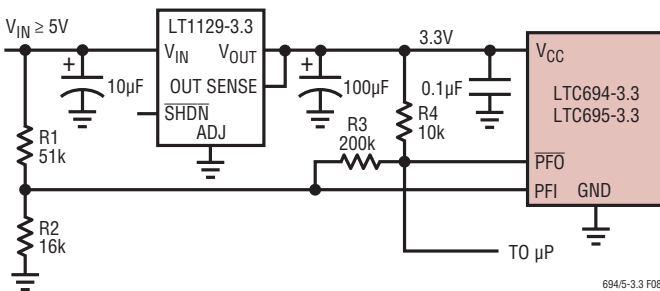

Figure 8. Monitoring *Unregulated* DC Supply with the LTC694-3.3/LTC695-3.3's Power-Fail Comparator
$\overline{\text{PFO}}$  goes low when the voltage at the PFI pin is less than 1.3V. Typically PFI is driven by an external voltage divider (R1 and R2 in Figures 8 and 9) which senses either an unregulated DC input or a regulated 3.3V output. The voltage divider ratio can be chosen such that the voltage at the PFI pin falls below 1.3V several milliseconds before the 3.3V supply falls below the maximum reset voltage threshold 3.0V.  $\overline{\text{PFO}}$  is normally used to interrupt the microprocessor to execute shutdown procedure between  $\overline{\text{PFO}}$  and  $\overline{\text{RESET}}$  or RESET.
The power-fail comparator, C3, does not have hysteresis. Hysteresis can be added however, by connecting a resistor between the  $\overline{\text{PFO}}$  output and the noninverting PFI input pin as shown in Figures 8 and 9. The upper and lower trip points in the comparator are established as follows:
**Example 1:** The circuit in Figure 8 demonstrates the use of the power-fail comparator to monitor the unregulated power supply input. Assuming the the rate of decay of the supply input  $V_{IN}$  is 100mV/ms and the total time to execute a shutdown procedure is 8ms. Also the noise of  $V_{IN}$  is 200mV. With these assumptions in mind, we can reasonably set  $V_L = 5V$  which is 1.6V greater than the sum of maximum reset voltage threshold and the dropout voltage of the LT1129-3.3 ( $3V + 0.4V$ ) and  $V_{HYSTERESIS} = 850mV$ .